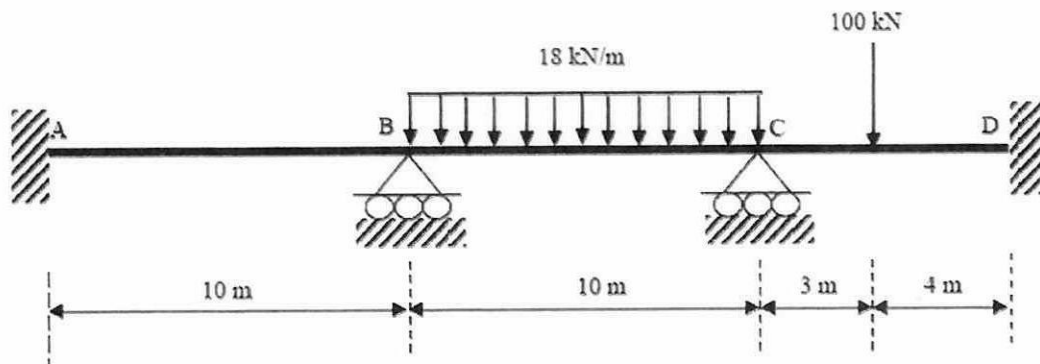

Figure Q1(b)
- (b) By using the moment distribution method, determine the final moments at all joints for the beam shown in **Figure Q1(b)**. The Young's Modulus,  $E$ , is 200 kN/mm2 and the second moment of area,  $I$ , is  $5 \times 10^6$  mm4 for all members of the beam.